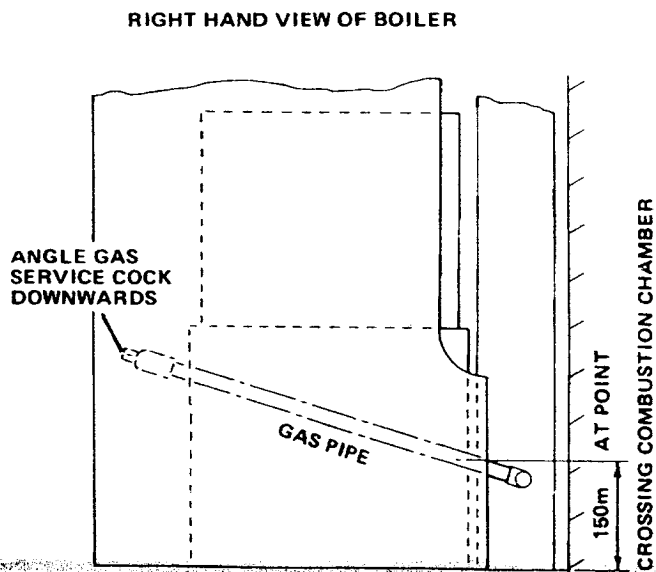

FIG. 8
- Connect the gas supply pipe to the boiler gas service cock. In order to coincide with the cut out in the casing side panel the pipe should be angled downwards from the service cock. See Fig.8.